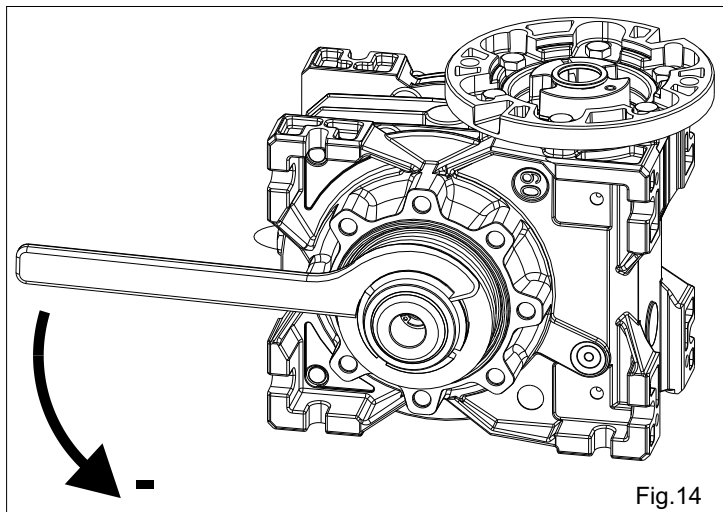

Fig. 14
- To **reduce** torque, turn the key **counterclockwise** (Fig. 14).